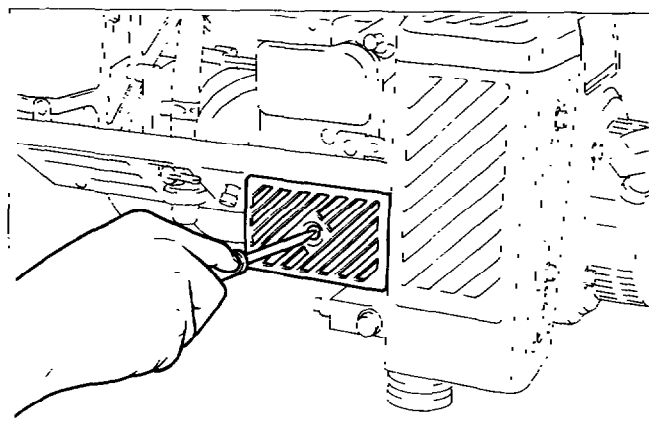

Fig. 10-38
- (2) Secure the element cover with M6 × 12 screws. (See Fig. 10-38.)